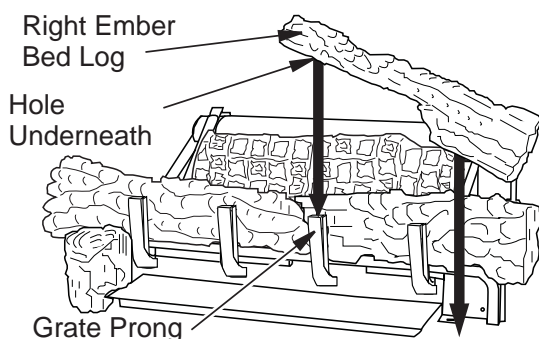

Figure 27 - Installing Right Ember Bed Log
5. The right ember bed log 24" & 30" (D-047) has a hole in the log that sets on the grate finger and the other end rest on the fireplace floor, place log as shown in **Figure 27**. The right ember bed logs for 18" (D-072) has a groove on the side that sets on the ember bed pan and the back of the log needs to rest against the front of the base. Make sure the flame from the ember pan does not touch the ember bed log. The back side of this log needs to rest against the front of the base assembly, make sure the flame from the ember pan does not touch the ember bed log.